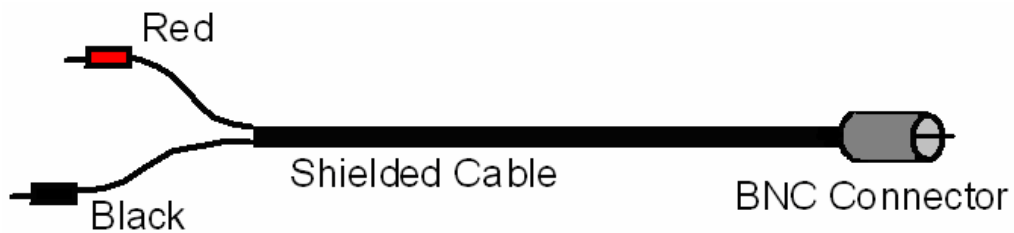

Figure 6
- The far right hand side is the OUTPUT of the signal generator. This is where we connect the cables to take the signal to an oscilloscope or an external circuit. We will use the two banana jacks at the bottom (the red and black ones) to connect banana plugs to a cable that has a BNC connector on the other end (the BNC connector is the round metal one that will connect to the “input” on the oscilloscope). The cable with the banana plugs and a BNC connector is shown in Figure 6 below.